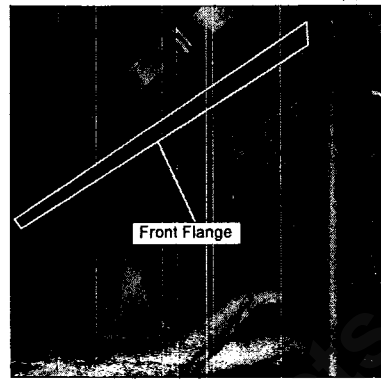

Figure 7
8. At this point the baffle is only held in place by the lip on the front flange and you. **Figure 7.**